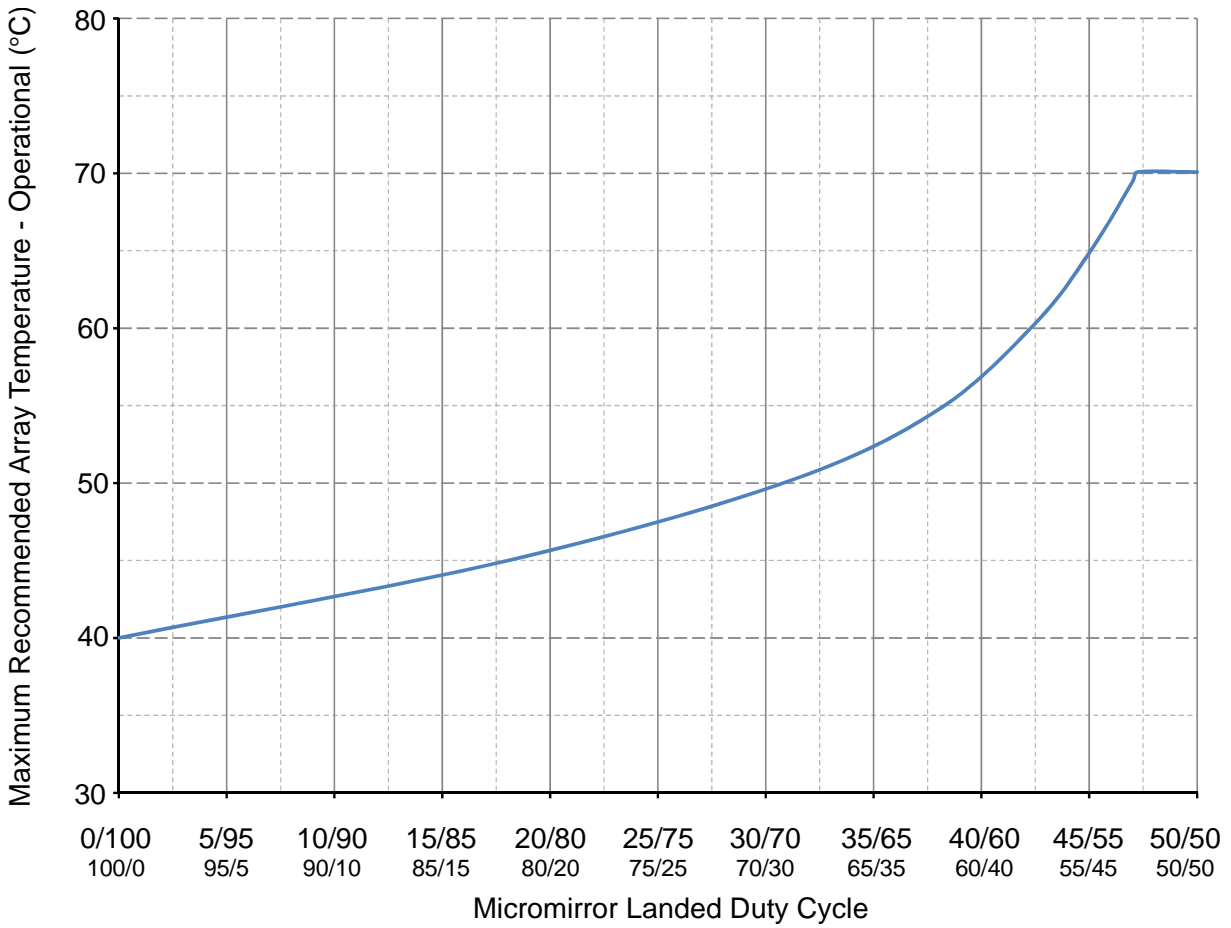

Figure 1. Maximum Recommended Array Temperature - Derating Curve
(12) Long-term is defined as the usable life of the device.
(13) Per Figure 1, the maximum operational array temperature should be derated based on the micromirror landed duty cycle that the DMD experiences in the end application. See Micromirror Landed-On/Landed-Off Duty Cycle for a definition of micromirror landed duty cycle.
(14) Array temperatures beyond those specified as long-term are recommended for short-term conditions only (power-up). Short-term is defined as cumulative time over the usable life of the device and is less than 500 hours.